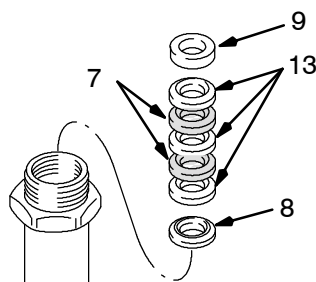

Fig. 20
Fig. 20 and parts lists. Place male gland (8) in cylinder. Alternately stack polyethylene (13) and leather packings (7) (lips facing down). Then place female gland (9) in top of cylinder. Seat packings.